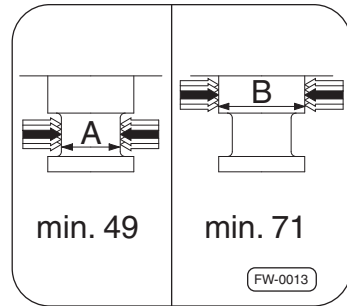

Fig. 19 · Check wear of the fifth wheel kingpin
- Measure both diameters in the longitudinal and transverse directions using the SAF-HOLLAND two-zone limit gauge Fig. 19.